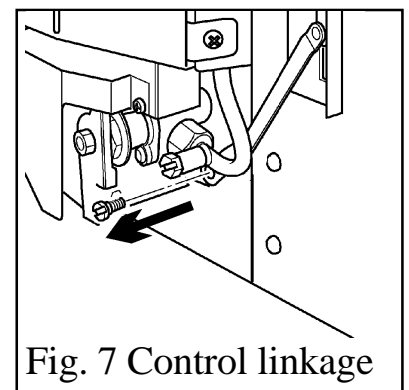

Fig. 7 Control linkage
4.2.2 Disconnect the control linkage from the burner unit by removing the shouldered screw which joins the control linking bar to the control pivot unit. See figure 7.